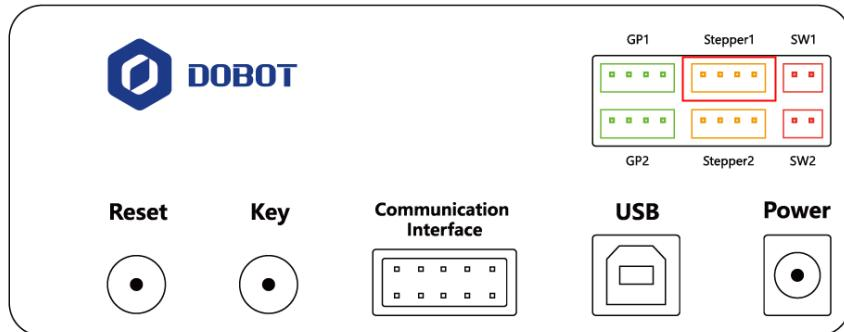

Figure 5.109 Connect with extruder
**Step 6** Connect the extruder to the **Stepper1** interface on the back of the base with motor cable, as shown in Figure 5.109.